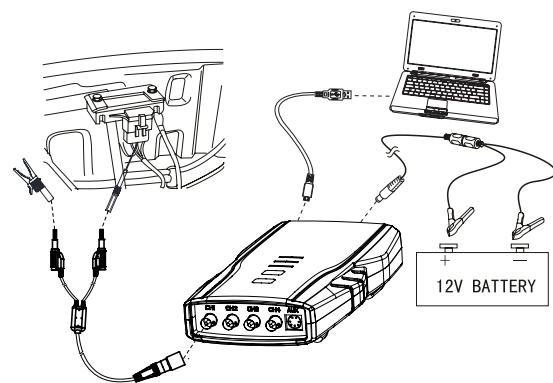

Fig. 8: Equipment connection
1. Connect equipment according to Fig 8, switch on power supply.